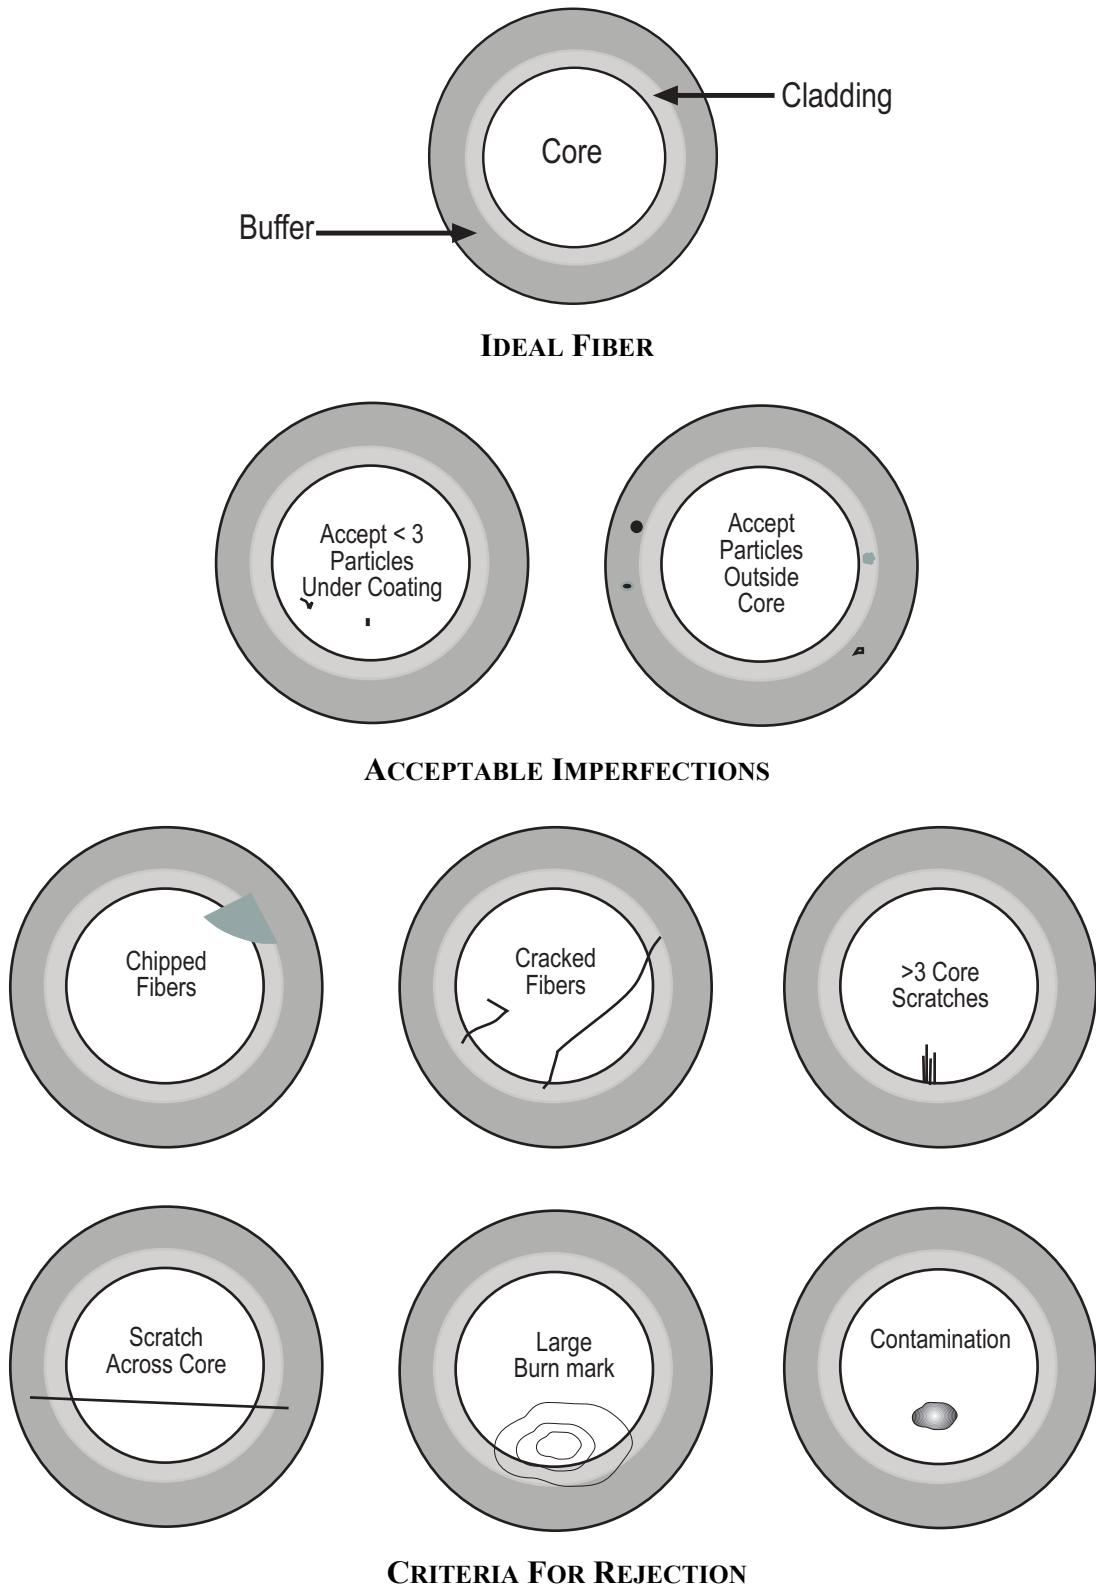

Figure 6-19. Guidelines for Fiber Optic Inspection
If the fiber surface is now ideal or complies with the acceptable guidelines as illustrated in Figure 6-19 on page 6-39, immediately install the fiber optic into the FAP-I/FAP-B.
7. If imperfections still remain, compare the image in the fiberscope with Figure 6-19 on page 6-39 and determine whether the fiber optic must be replaced. Contact Coherent Service if further guidance is needed.
10. If imperfections still remain, compare the image in the fiberscope with Figure 6-19 and determine whether the fiber optic must be replaced. Contact Coherent Service if further guidance is needed.
If the fiber surface is now ideal or complies with the guidelines as illustrated in Figure 6-19 on page 6-39, immediately install the fiber optic into the FAP-I/FAP-B.
Figure 6-19 illustrates further criteria for accepting or rejecting a fiber because of damage. Note that the views shown do not represent the entire surface of the fiber optic. Much of the surface is the metal connector and only the 800-micron core is the actual optical fiber.